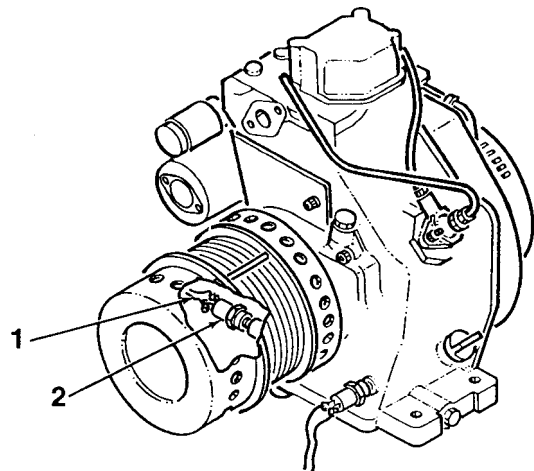

Figure 4-28. Engine Temperature Switch
1. Disconnect electrical plug (1, Figure 4-28) from engine temperature switch (2).
2. Using a 1-inch open end wrench, remove engine temperature switch (2) from engine crankcase.
1. Apply teflon tape to the threads of engine temperature switch (2, Figure 4-28). Install switch into engine crankcase.
2. Connect electrical plug (1) to engine temperature switch (2).